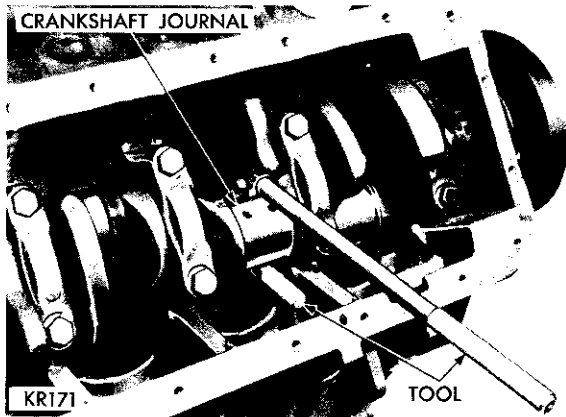

Fig. 45—Installing Connecting Rod Using Tool C-3221
(5) Attach the puller part of Tool C-3221 on the other bolt, and guide the rod over the crankshaft journal, as shown in Figure 45.
(6) Tap the piston down in the cylinder bore, using the handle of a hammer. At the same time, guide the connecting rod into position on crankpin journal.
(7) The notch or groove on the top of the piston must be pointing toward front of the engine and the larger chamfer of the connecting rod bore must be installed toward the crank pin journal fillet.
(8) Install the rod caps, tighten nuts to 45 foot-pounds torque.